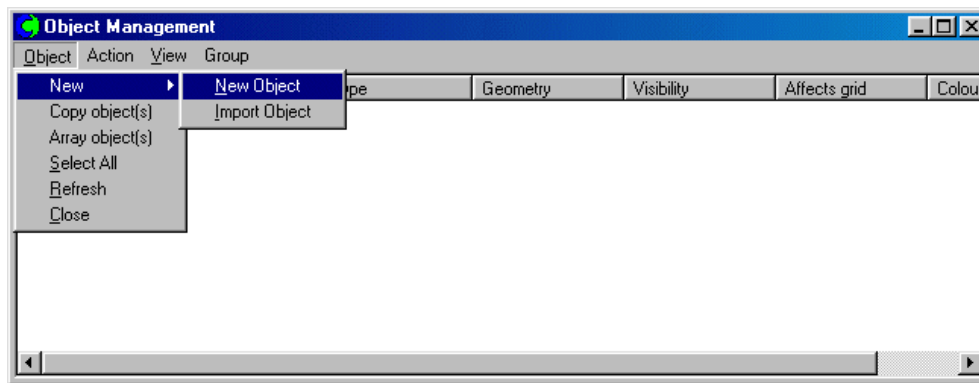

Figure 2.6 The Object management dialog Box.
- Click on the 'Object' button on the control panel and then click on 'Object' pull-down menu on the 'Object management' dialog as shown in figure 2.6